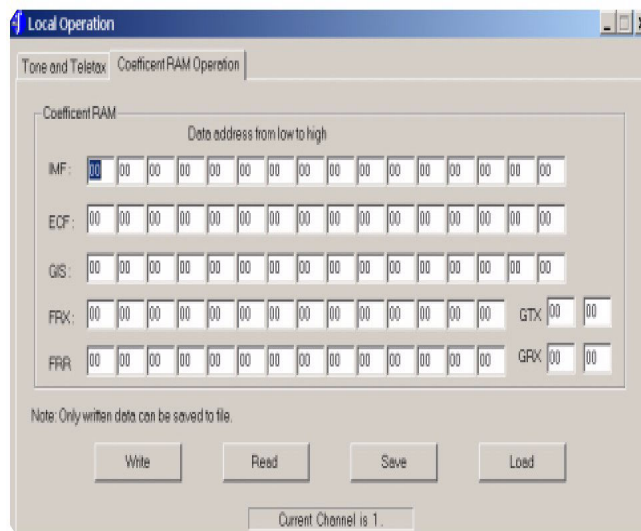

FIGURE 8. COEFFICIENT RAM OPERATION SCREEN
When the COF RAM button is selected from the MPI Operation General Interface screen, the COF RAM Operation screen will appear (Figure 8). From this screen, the user can load the coefficients for the current channel.
4. From MPI Software screen, Select COF RAM. The Coefficient Ram Operation screen will appear (Figure 8).